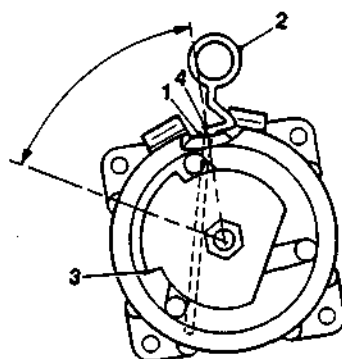

Figure 1.
3. Remove the plug from the oil filler hole (1 Fig. 1).
4. Rotate the counter weight (3 Fig. 1) on the front of the clutch to allow the dipstick (2 Fig. 1) to penetrate to its fullest extent.
5. Insert the dipstick to its stop position (4 Fig. 1). The point of dipstick angle should be facing left.